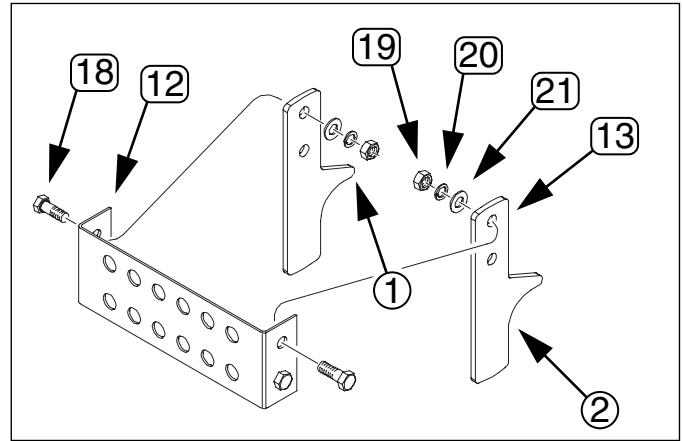

Figure 2
Refer to Figure 2
11. Use sandpaper to remove the paint on the welding edge of the mount plates (2 in Figure 2 above), plus the area about 1/2 in (1.3cm) on either side at that edge.